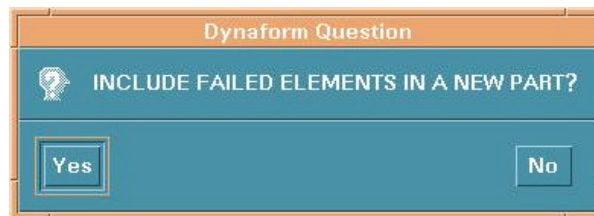

Figure 6.5.6 Include Failed Element Question
2. If there are failed elements, a DYNAFORM Question window appears, see Figure 6.5.6.
3. If the user selects YES, eta/DYNAFORM will prompt to include the element in new part, see Figure 6.5.6.